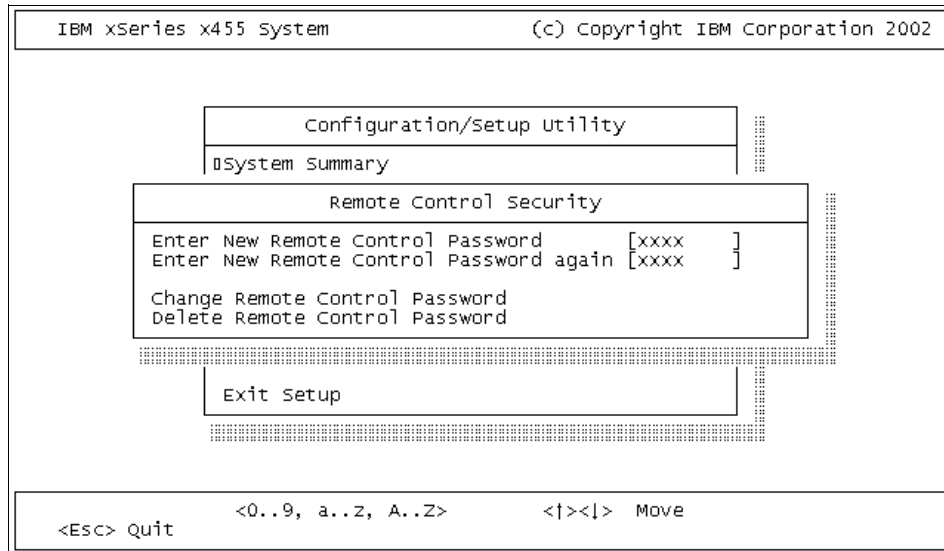

Figure 5-5 Configuring the remote control password
5. In the Enter New Remote Control Password field, enter the Remote Control password that you wish to use each time you log into the remote control features of the Remote Supervisor Adapter Web Interface. See Figure 5-5 on page 187.